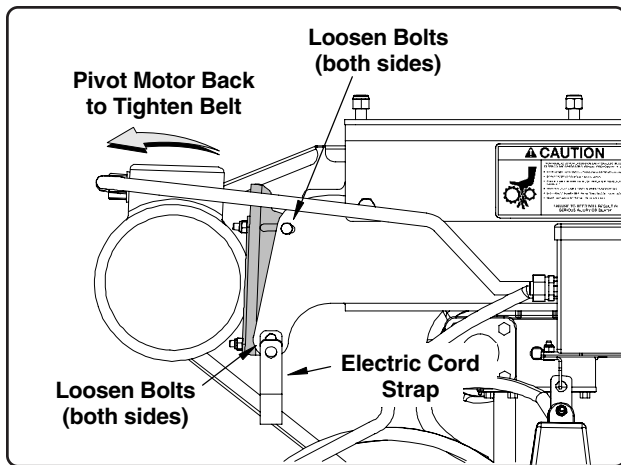

Fig. 2
3. To adjust belt tension, loosen the four bolts securing the motor mount plate (two bolts on each side of motor mount plate, the lower bolt on the right-hand side also secures the electric cord strap hanger, See Fig. 2).